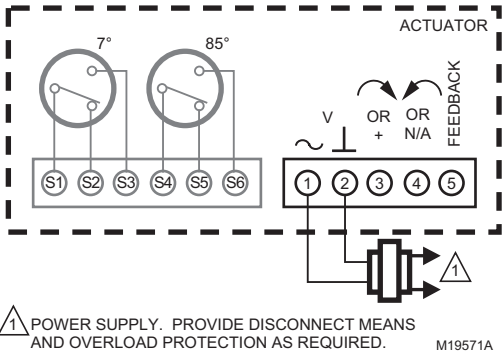

Fig. 11. Terminal block details.
Some models include end switches (see Table 2). For wiring details, see Fig. 11.
For SPDT end switch wiring, see Fig. 11.
2. Connect power to terminals 1 and 2. (See Fig. 11 and Table 6.)
4. Apply control signal for actuator 100% position. (See Fig. 11 and Table 6.)
- a. (0)2-10 Vdc: apply 10 Vdc signal to terminal 3.
- b. 10-(0)2 Vdc: apply (0)2 Vdc signal to terminal 3.
- c. (0)4-20 mA: apply 20 mA signal to terminal 3.
- d. 20-(0)4mA: apply (0)4 mA signal to terminal 3.
- e. Floating: apply 24 Vac to appropriate CW (3) or CCW (4) terminal.
6. Apply control signal for actuator 0% position. (See Fig. 11 and Table 6.)
- a. (0)2-10 Vdc: apply (0)2 Vdc signal to terminal 3.
- c. (0)4-20 mA: apply (0)4 mA signal to terminal 3.
4. Apply control signal for actuator 50% position. (See Fig. 11 and Table 6.)
- c. Floating: apply 24 Vac to appropriate CW (3) or CCW (4) terminal.